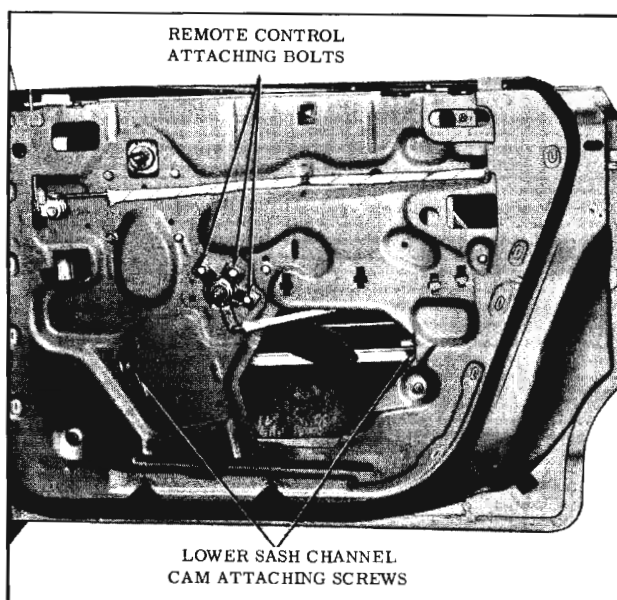

Fig. 16-55 Lower Sash Channel Cam Screws
2. Lower door window sufficiently to gain access to sash channel cam two attaching screws (through access holes in door inner panel) and remove screws. (Fig. 16-55)
3. Lower door window and remove lower sash channel cam attaching screws. (Fig. 16-55)